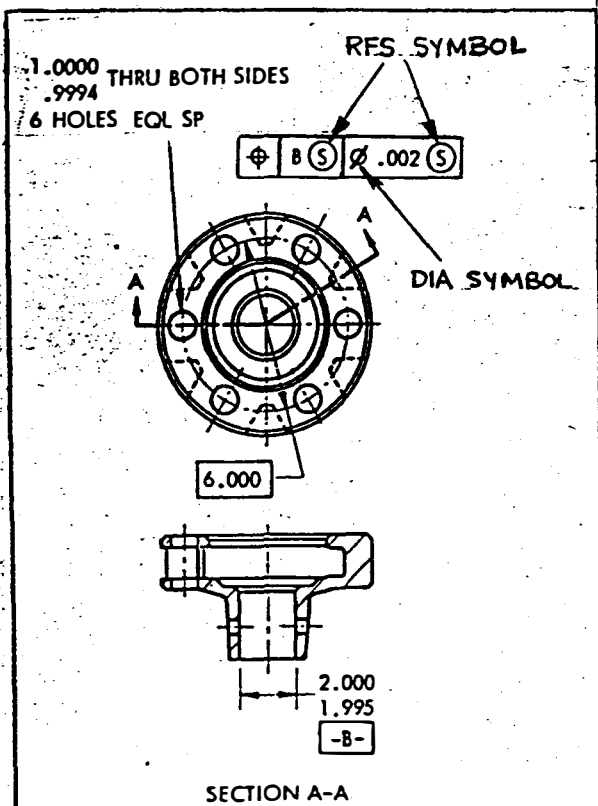

FIG. 105 RFS APPLIED TO A FEATURE AND DATUM
**15.6.3** In Figure 105, the six holes may vary in size from 0.9994 to 1.0000. The six individual hole diameters might measure 0.9995, 0.9996, 0.9997, 0.9998, 0.9999 and 1.0000. In order to minimize spacing errors each hole must be located within the specified positional tolerance regardless of the size of that hole. A hole at LMC (1.0000 diameter) is as accurately located as a hole at MMC (0.9994 diameter). This positional control is more restrictive than the MMC concept more commonly applied to positional tolerancing.
**15.6.4** The functional requirements of some designs may require RFS be applied to both the hole pattern and datum feature. That is, it may be necessary to require the axis of an actual datum feature (such as datum diameter B in Figure 105) be the datum axis for the holes in the pattern regardless of the datum feature's size. The RFS application does not permit any shift between the datum axis and the pattern of features, as a group, where the datum feature departs from MMC.